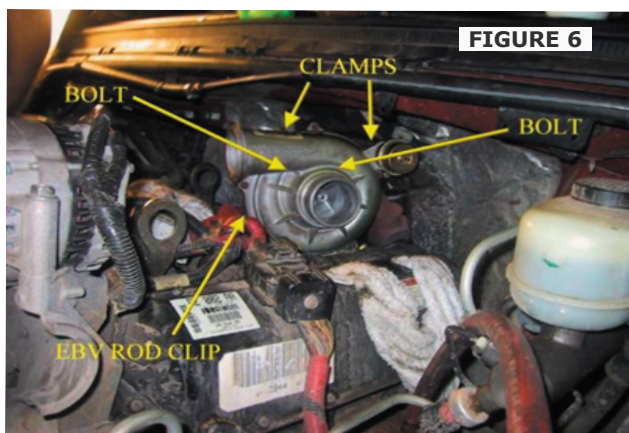

FIGURE 6
STEP 5 – Loosen the clamps to the downpipe & up-pipe collector and remove the two bolts on top of the turbo. *WARNING*: Unless your truck is brand new (or you are very lucky), these clamps will probably be very hard to get loose. The immense amount of heat they see daily contributes to making them stick in place. Spray both clamps (one at the downpipe and one behind the turbo at the up-pipe collector) thoroughly with penetrating oil and allow them to sit while you disconnect the EBV rod clip and remove the pedestal bolts (fig6).